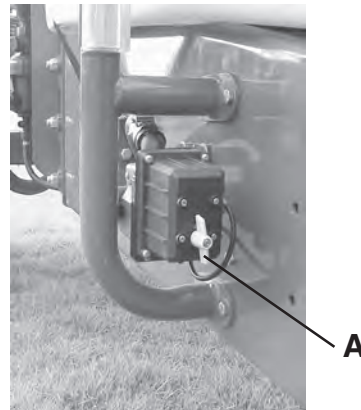

Fig 15
- 4 Decrease the pressure until the pressure control valve handle (A Fig 15) stops rotating (minimum pressure).